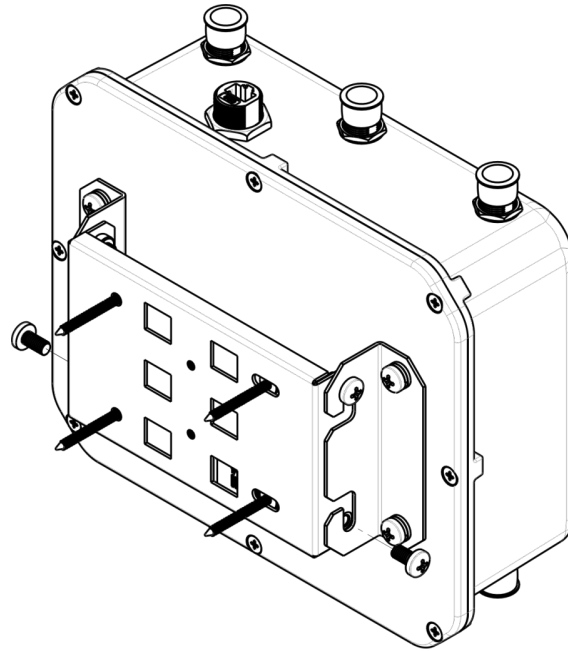

Figure 13 – Wall-mounting the device
1. Install the device on the top untwisted screws of a bracket attached to the wall, see Figure 13.
2. Install screws in the bottom bolthole, see Figure 13.